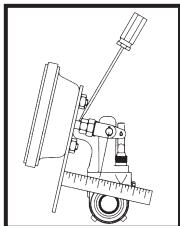

Figure 2 – Free Stroke
4. Free stroke is the amount of movement of the slack arm required to move the brake shoes against the drum. With brakes released, measure from the face of the chamber to the center of the clevis pin. Use a lever to measure the movement of the slack adjuster until the brake shoes contact the drum (See fig. 2). The difference between the released and applied measurements is the free stroke. The free stroke should be 3/8" - 5/8".